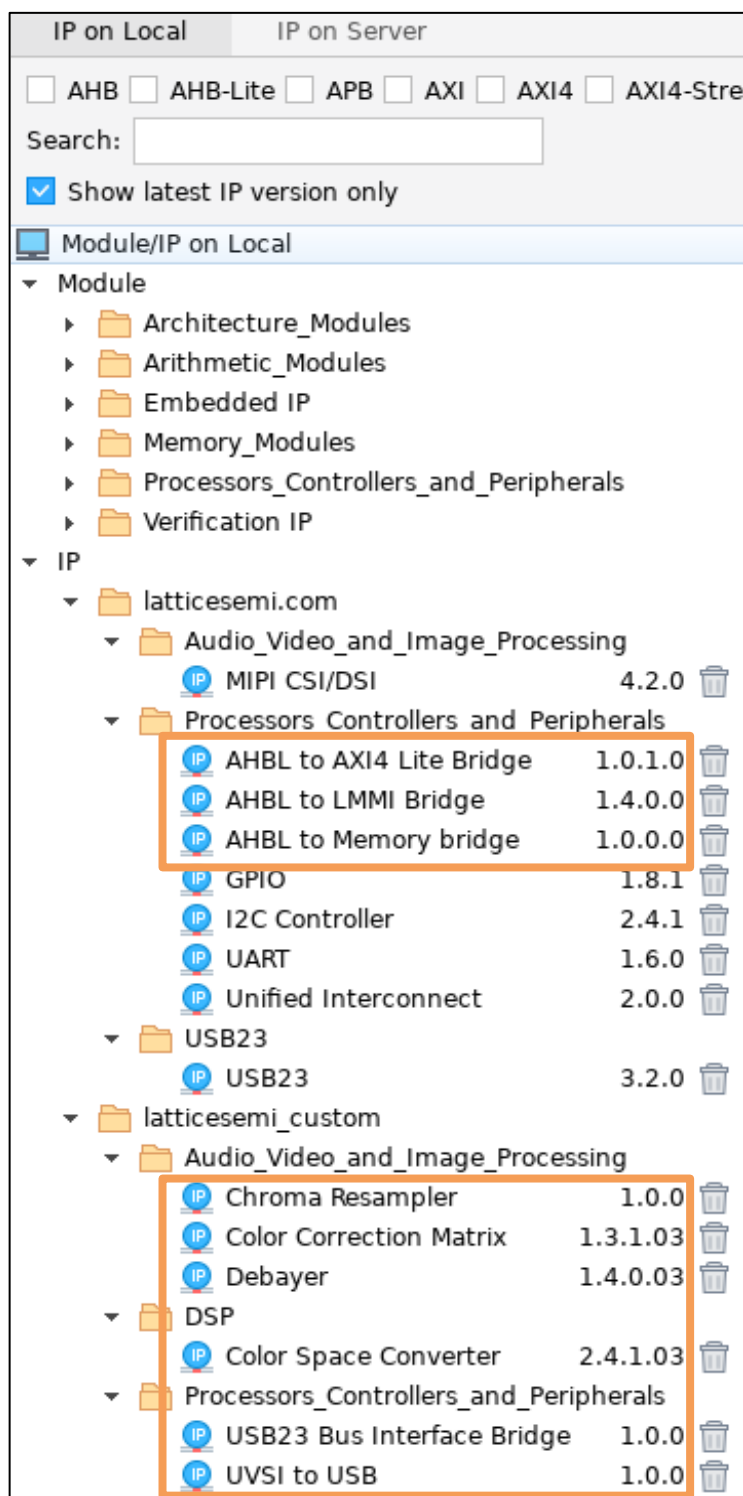

Figure 5.11. IPs Installed from Files
- f. After completing the IPK installation, the IP mentioned above should be available under **IP on Local**, as shown in Figure 5.11.